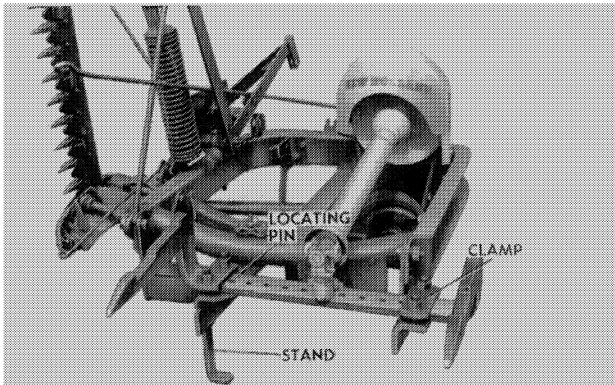
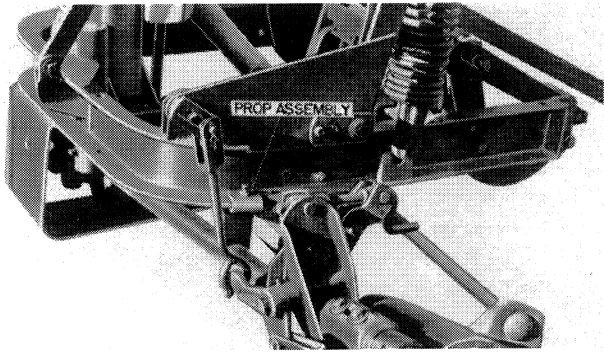

FIGURE 6
FIGURE 11
Attach the tractor drawbar to the hitch brackets with two clamps and four $\frac{3}{4}$ " x 3" hex head bolts as shown in Figure 6. Be sure the locating pin is in the hole to the extreme right of the drawbar.
Raise the stand, as shown in Figure 6, and remove the prop assembly Figure 11 before operating the mower. The prop may be clamped to the frame for transport securing with the set screw.
10. Remove the prop, Figure 11, and clamp on the frame for transport.